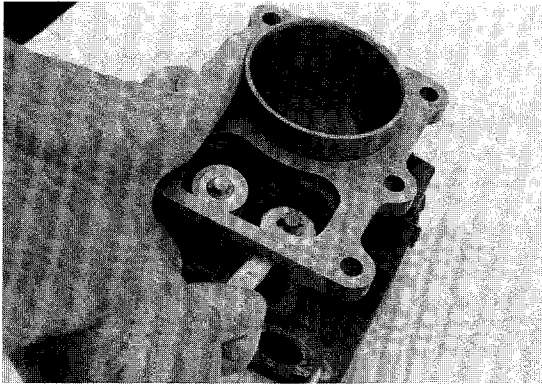

Figure 6-22
1. Insert exhaust (55) and intake valve (50) into their respective seats in cylinder, turn cylinder upside down, holding valves in place by hand.
2. Install valve springs (48) and retainer seats (47).
3. To install collets (56) to valve stems, compress valve spring with wrench and place both collet halves into groove in valve stem. Release wrench slowly until valve spring pressure locks collets in stem groove (Figure 6-22).